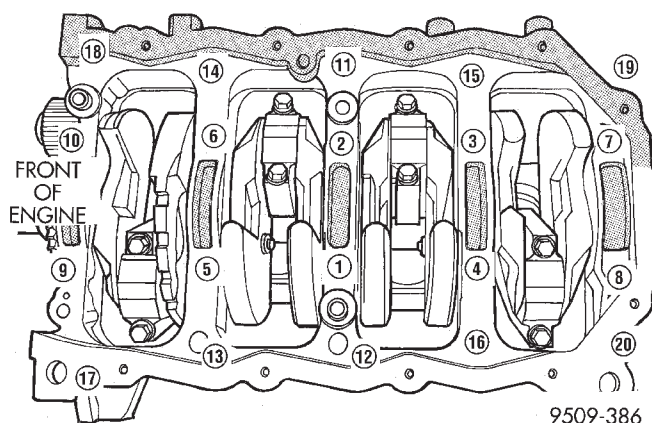

Fig. 76 Main Bearing Caps/Bedplate TorqueSequence
(1) Place Special Tool 6926-1 on crankshaft. This is a pilot tool with a magnetic base (Fig. 76).
(2) Position seal over pilot tool. Make sure you can read the words **THIS SIDE OUT** on seal (Fig. 76). Pilot tool should remain on crankshaft during installation of seal. Ensure that the lip of the seal is facing towards the crankcase during installation.
(5) Install lower main bearings into main bearing cap/bedplate. Make certain the bearing tabs are seated into the bedplate slots. Install the main bearing/bedplate into engine block.
(6) Before installing the bolts the threads should be oiled with clean engine oil, wipe off any excess oil.
(7) Install main bearing bedplate to engine block bolts 11, 17 and 20 finger tight. Tighten this bolts down together until the bedplate contacts the cylinder block. Then torque these bolts to 28 N·m (20 ft. lbs.).
(8) Install main bearing bedplate to engine block bolts (1 thru 10) and torque each bolt to 41 N·m (30 ft. lbs.) in sequence, then in sequence tighten bolts an additional 1/4 turn (Fig. 76).
(9) Install main bearing bedplate to engine block bolts (11 thru 20), and torque each bolt to 28 N·m (20 ft. lbs.) in sequence shown in (Fig. 76).
(10) After the main bearing bedplate is installed, check the crankshaft turning torque. The turning torque should not exceed 5.6 N·m (50 in. lbs.).